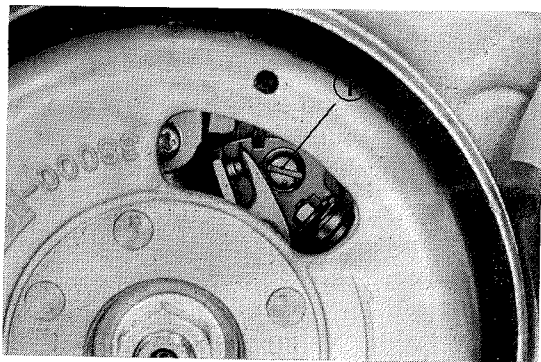

Fig. 3 Breaker point gap
3. Measure point gap using a thickness gauge. The gap should be 0.3–0.4 mm (0.012–0.016 in.) (Fig. 3)